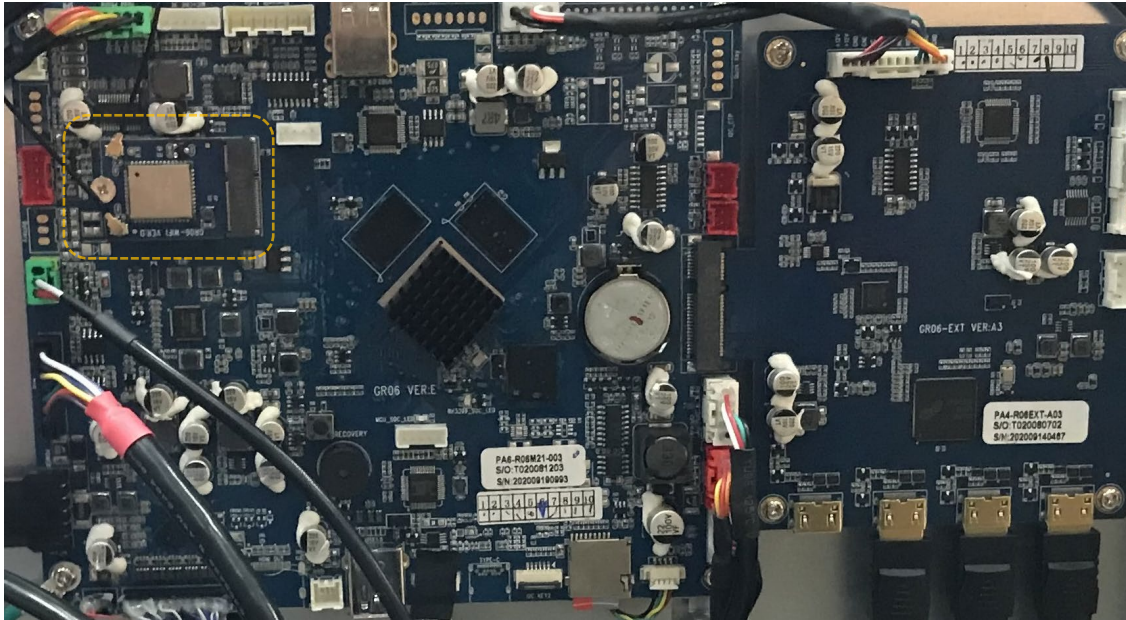

Figure 1
2. Locate the Wi-Fi board on the UCB (Fig. 1).